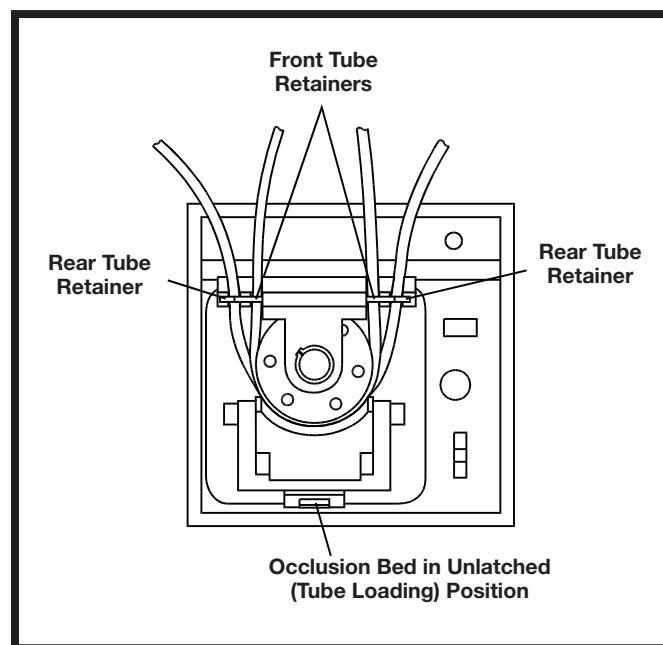

Figure 4. Occlusion Bed in Unlatched Tube Loading Position
2. Press down on the **Occlusion Bed Latch**, *Figure 4*, to release the Occlusion Bed from the rotor.